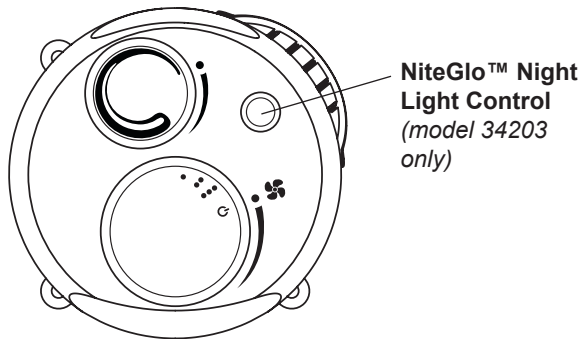

Figure 11
3. **NiteGlo™ Night Light Control (model 34203 only):** Turns the night light 'ON' and 'OFF'. The night light can be turned on even if the humidifier fan is turned off. See figure 11.